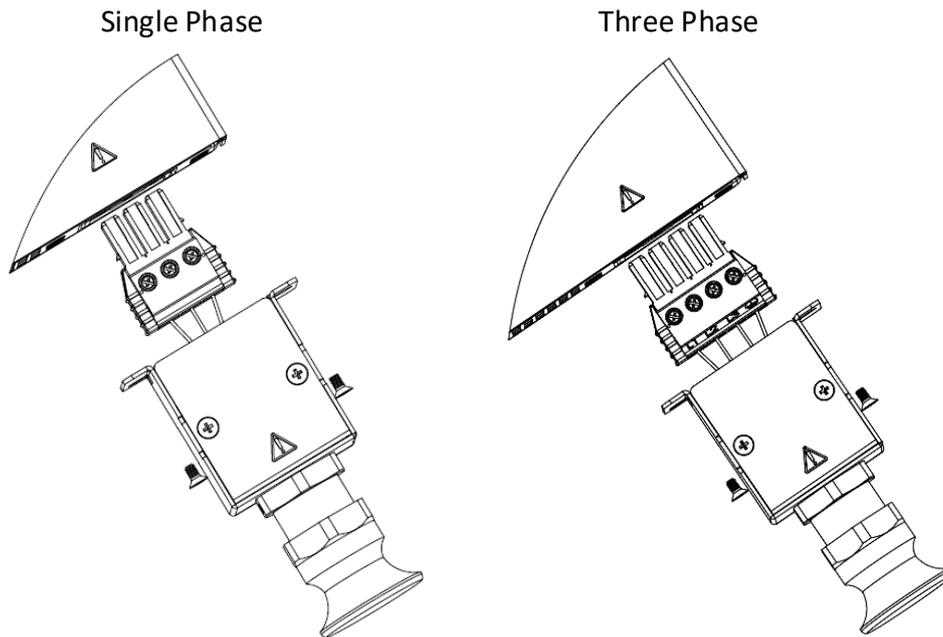

Figure 4-23: AC Wires Fixed to the AC Connector
6. Insert the AC wires into the AC input connector as shown in Figure 4-23.